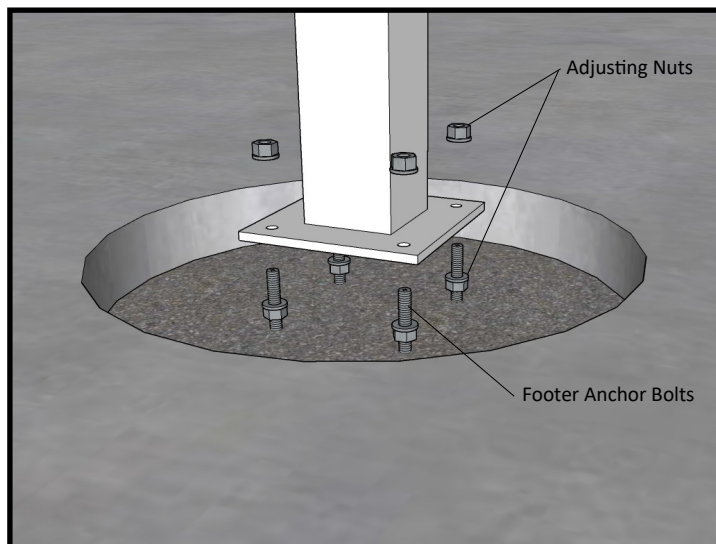

Fig 2
2. Refer to project specific drawing package for intended method of installation. - Begin installation by setting the Posts (#5) onto the anchors at top of the footers. Make sure you have nuts below and above the base plate to allow adjustment. (see fig 2)